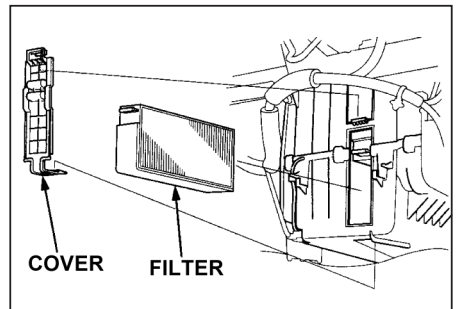

Fig. 2
4. Remove the original lower CAF assembly and then the upper CAF assembly from the evaporator housing. (See Fig. 2)